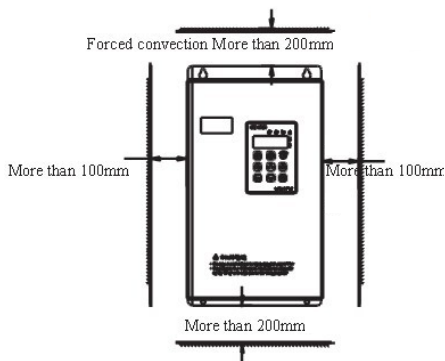

Fig. 3-1 Mounting space and distance
- (1) Generally in vertical way.
- (2) For the requirements on mounting space and distance, refer to Fig. 3-1.